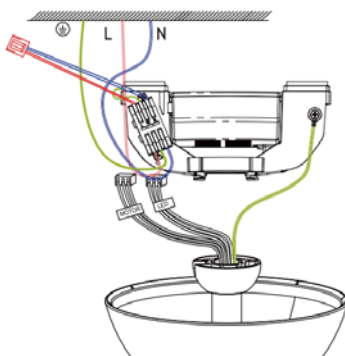

Fig. 6
(Refer to Fig 6.).
- Screw "EARTH" cable from motor to cavity  on the mounting bracket. Please refer to Fig 6.